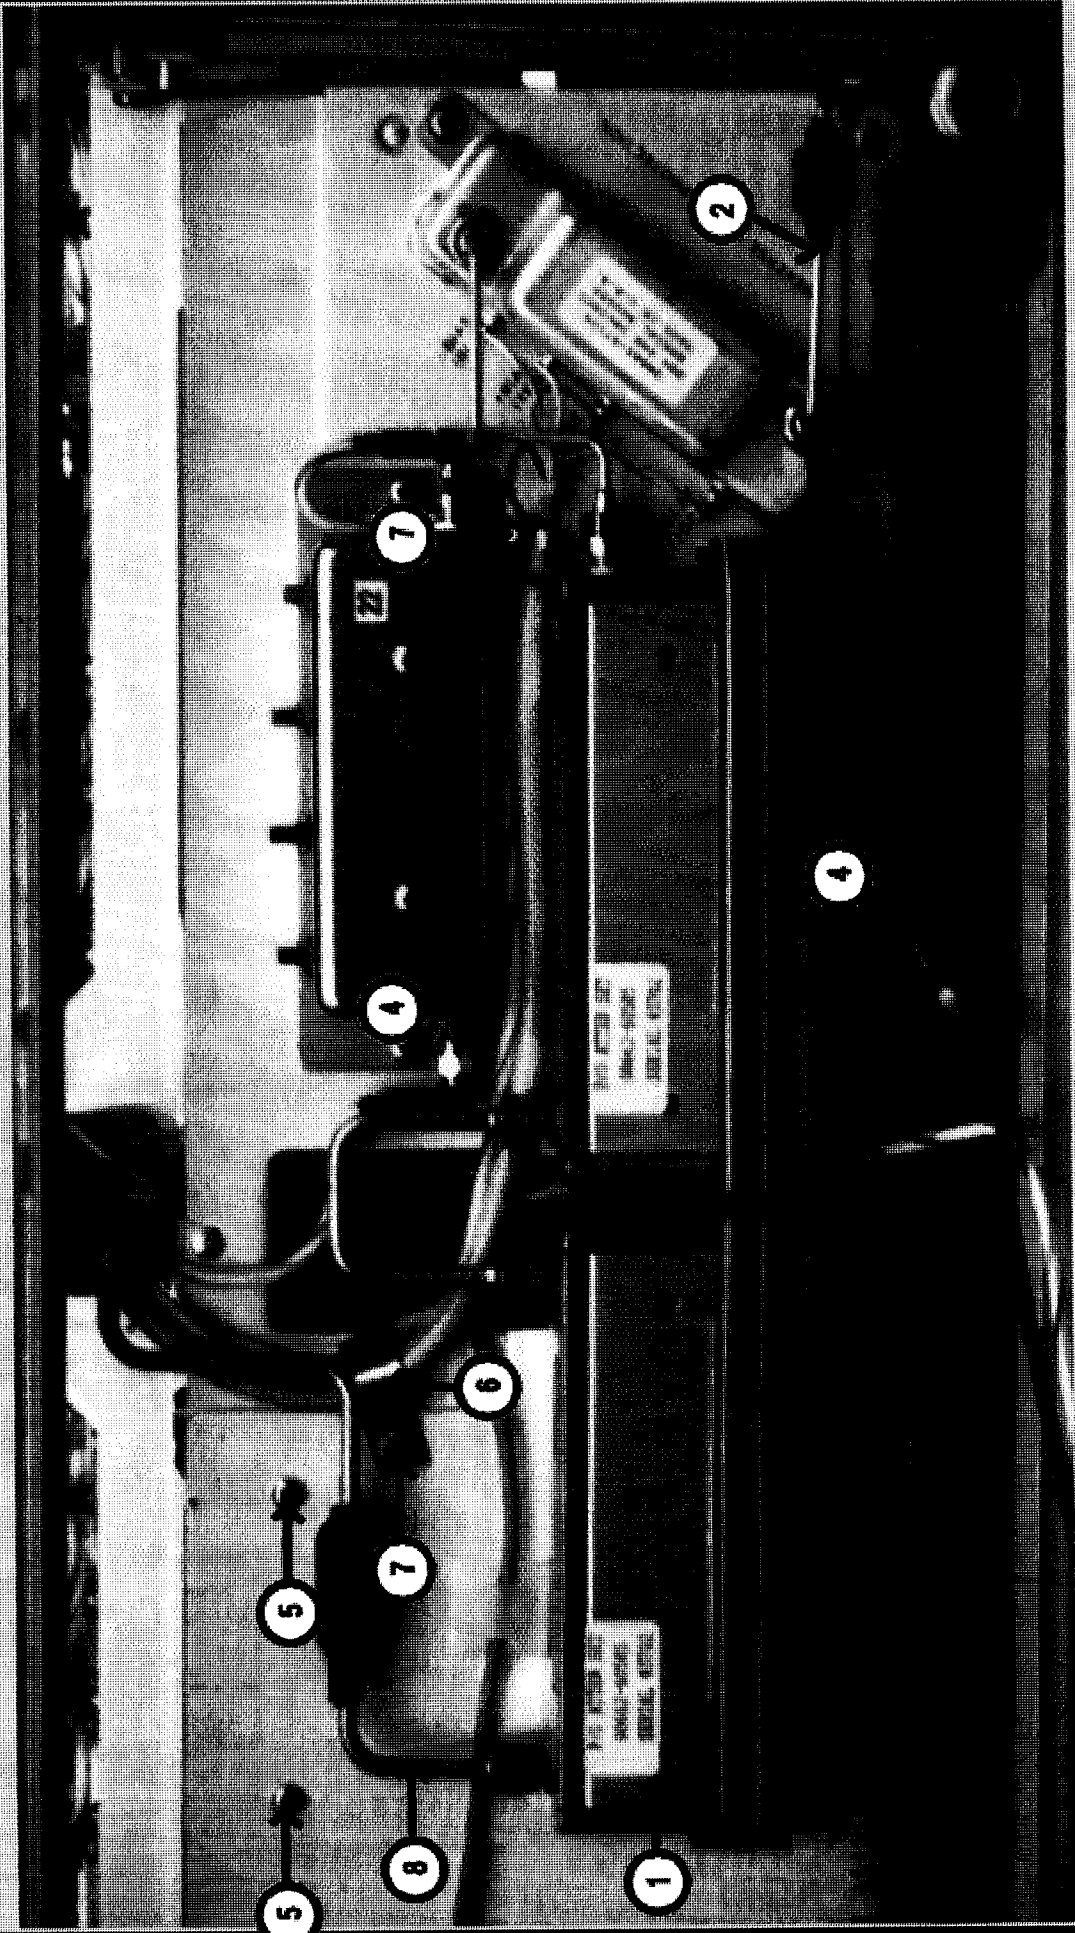
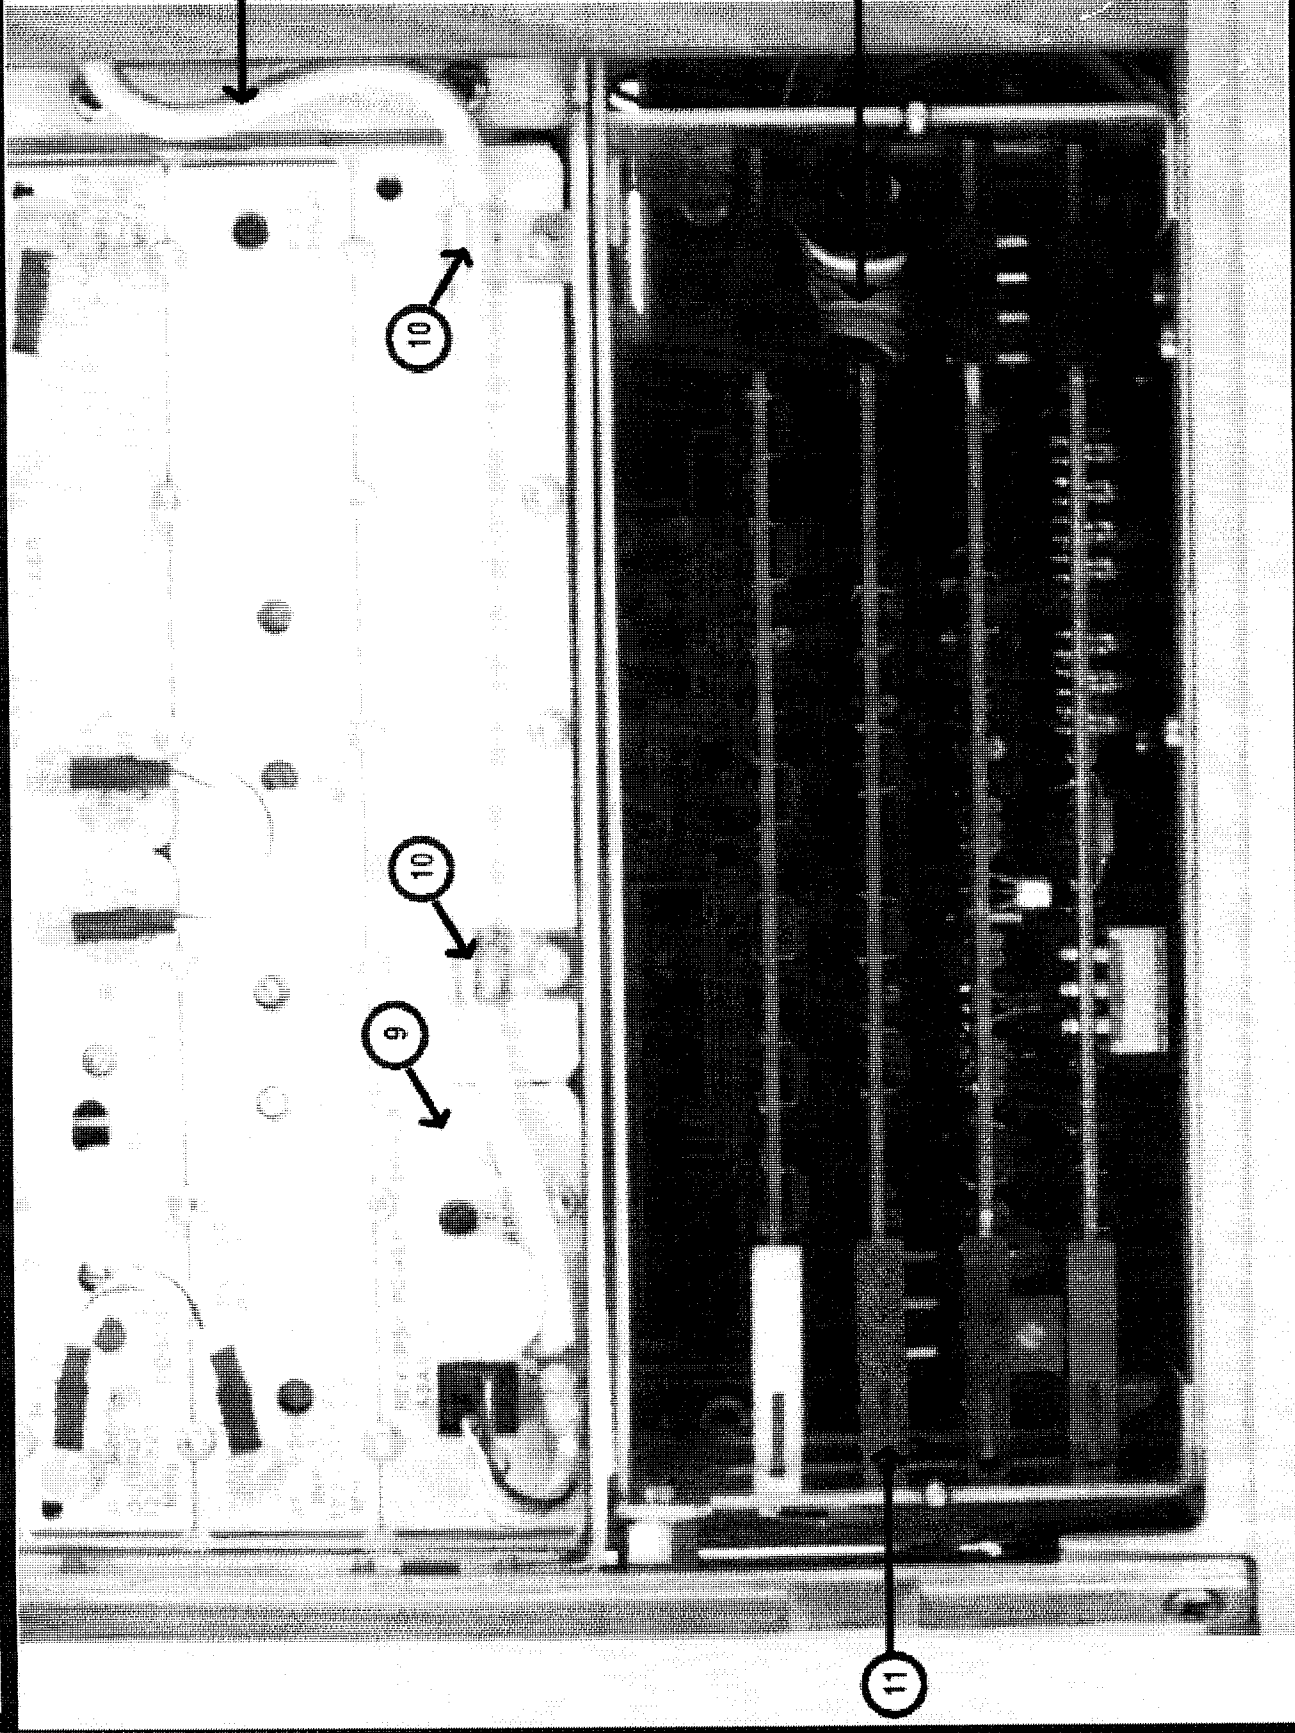

Figure: 1 FRONT PANEL OUTPUT
Figure: 2
2. Remove and discard the old A3A1 Reverse Power Driver. (See item 9 in Figure 2.) Remove and discard the old A2A3 Mod/Latch Driver. (See item 11 in Figure 2.) Remove and discard the old memory cards that may be in position A2A7, A2A8, or A2A9.
7. Install all new attenuator hardware as shown in figures 1, 2, and 3. Some 8662As have rear panel RF outputs; item 3 will be used in place of item 2. (See Figure 1.) The cable will require careful routing down the very center of the instrument. The ribbon control cables for the new attenuators are routed through the center of the instrument and up to the new latch driver board. (See Figure 2.)
8. Install the new RAM/ROM memory board in position A2A8. (See item 12 on the packing list.) Positions A2A7 and A2A9 are left unused in the latest configuration.